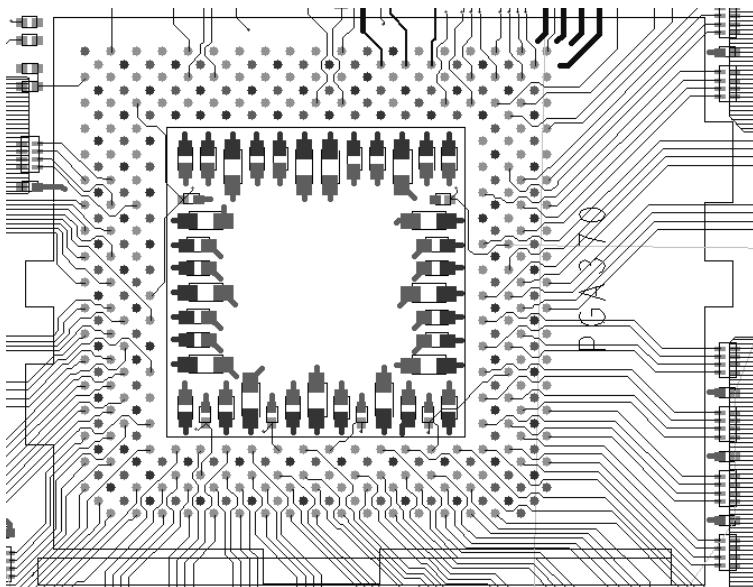

Figure 9: Capacitor Placement on the Motherboard
- Ten or more 4.7uF capacitors in 1206 packages. Ceramic X7R capacitors are recommended. All capacitors should be placed within the PGA370 socket cavity and mounted on the primary side of the motherboard. The capacitors are arranged to minimize the overall inductance between Vcc_CORE/Vss power pins. Examples are as shown in Figure 9 below and Figure 2 on page 7.